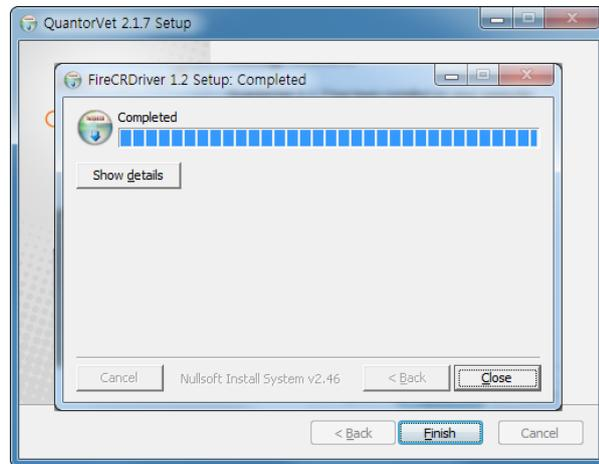

Figure 2.9 Installation of **FireCR** USB Driver
- Installation status of the **FireCR** USB driver will be displayed as Shown in Figure 2.9
Select the System button as shown in Figure 2.9 on the Home Window.